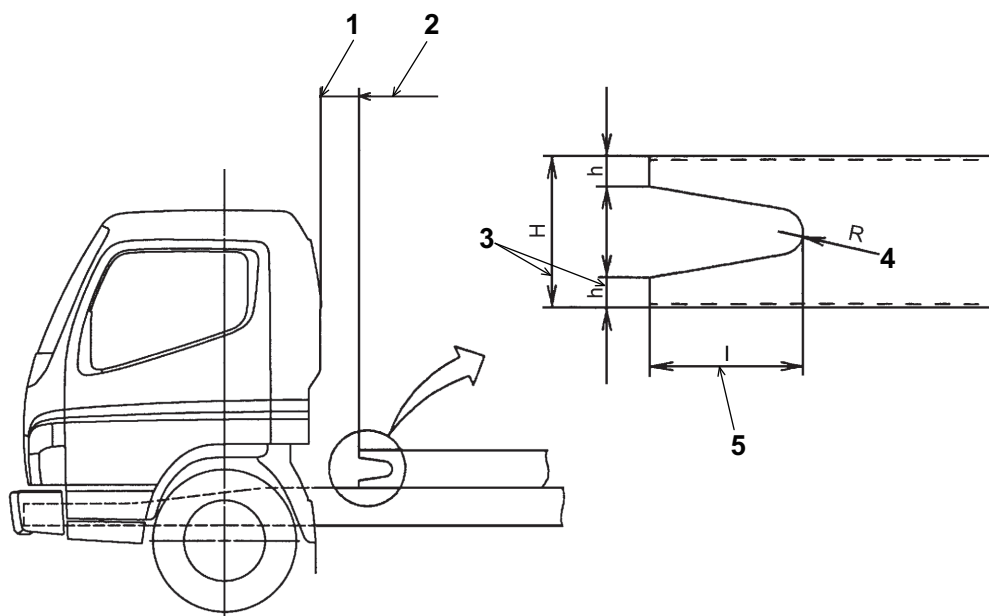
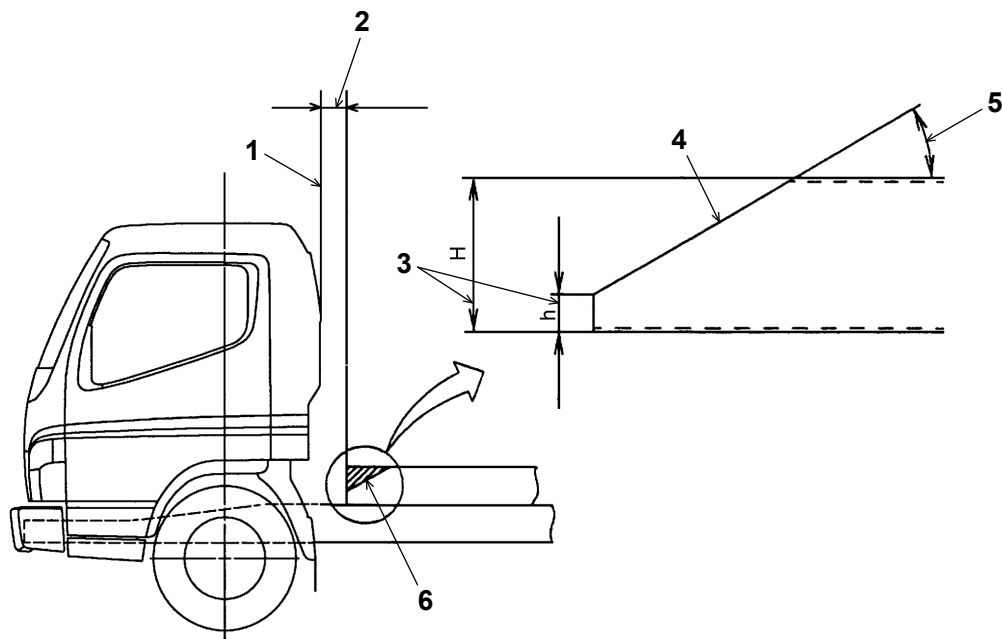
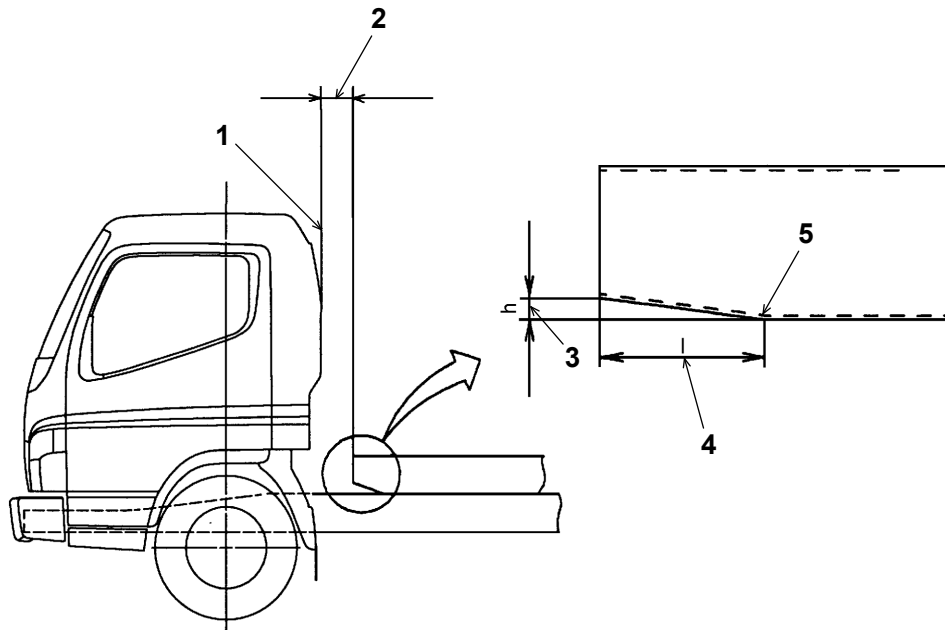

Fig. 2
Fig. 3
Fig. 4
- (a) Install the mounting frame having the shape as shown in Fig. 2 to gradually reduce the stress concentrations in the front end.
- (b) The shape of the mounting frame front end as shown in Fig. 2 is highly desirable. However, if there is enough room behind the cab, the shape as shown in Fig. 3 is also acceptable.
- (c) If it is difficult to shape the front end of the mounting frame as described in Fig. 2 and Fig. 3, cut it to the shape as shown in Fig. 4 before installation.